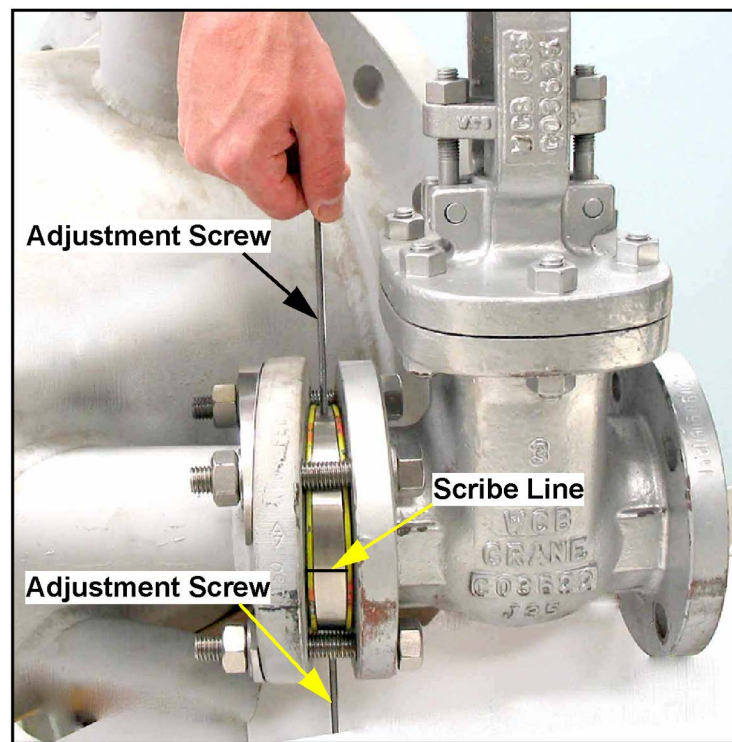

Figure 6: Adjusting the Wedge Position
5. Insert the two adjustment screws into the threaded holes on the 6° wedge (see Figure 6 below) and use them to rotate the wedge until the scribe line is centered between the two bolts.